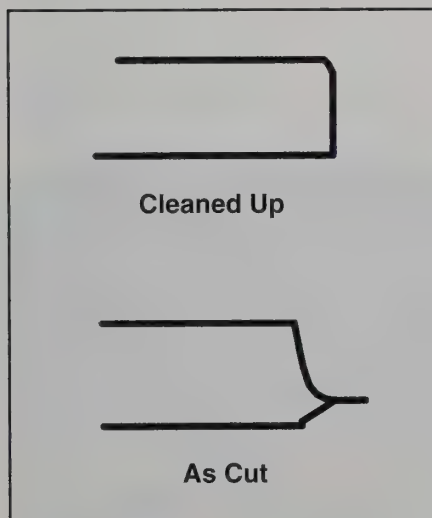
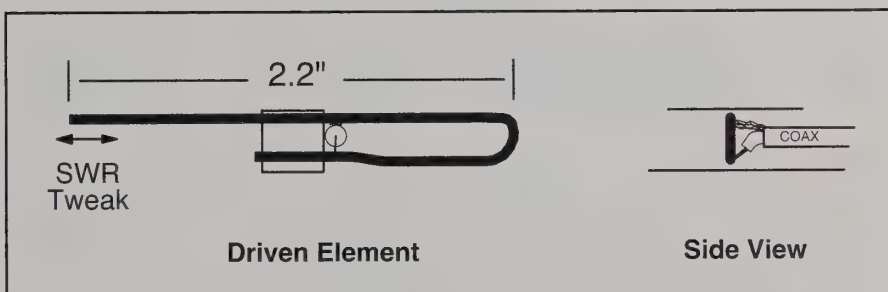

Figure 1. Element ends.
Figure 2. Driven element of both the 6-element and 11-element versions.
When things get small, little things become big things. Just how the ends of the elements are cut makes a difference (figure 1). My prototype wouldn’t tune up until I cleaned up the jagged ends of the elements. A few quick strokes with a flat file—or in my case, a second on the belt sander—fixed the problem. The antennas covered here have similar dimensions (figure 2 and Table I), and
*Driven element is per figure 2 for both Yagis.